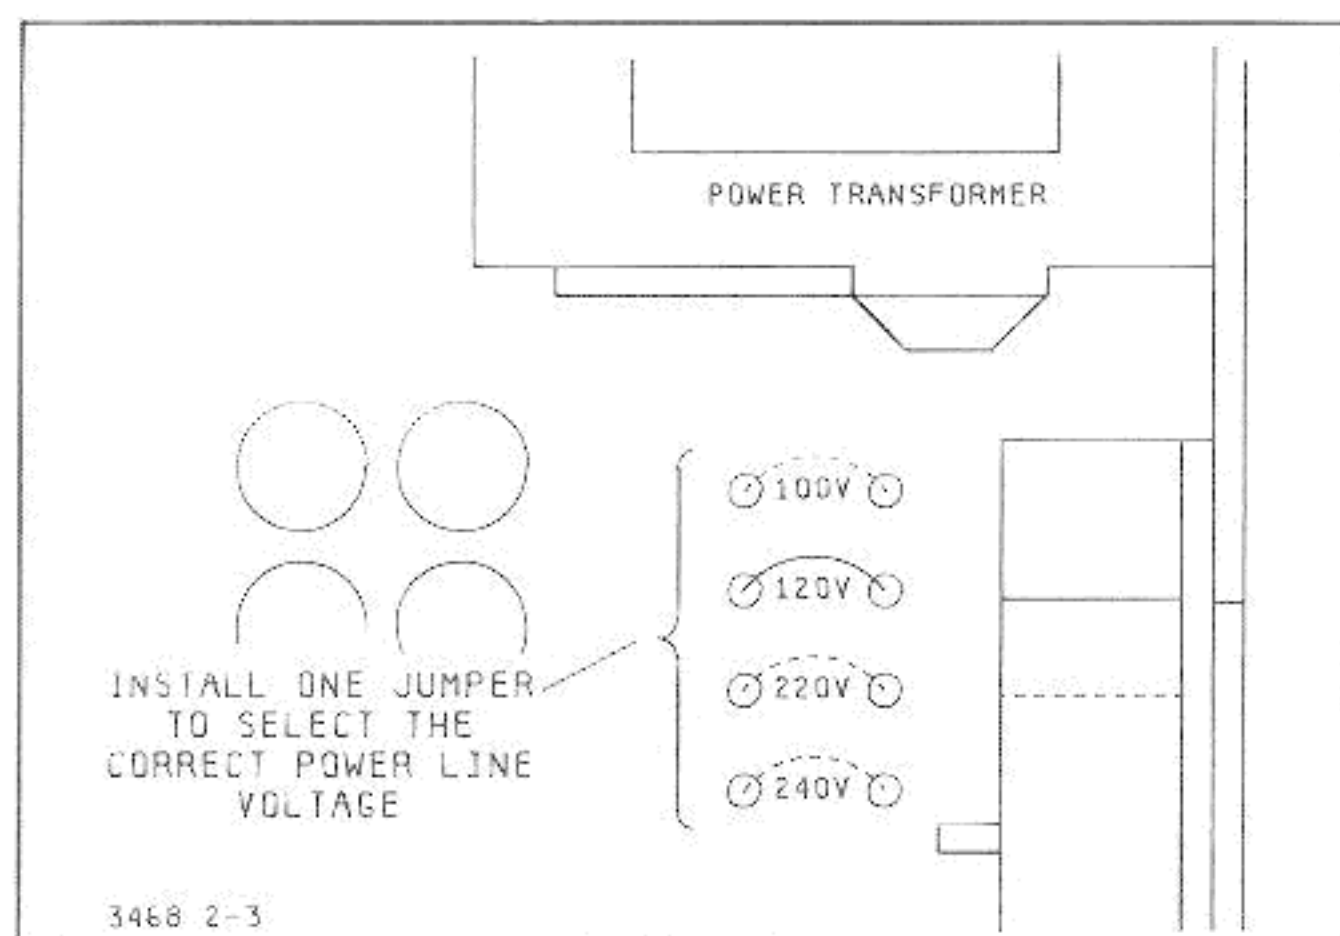

Figure 2-4. Power Line Voltage Configuration
6. Locate the power line select jumpers. They are located on the 3468A's main printed circuit board at the right side of the power transformer (see Figure 2-4). If the jumper is in the correct position, go to step c to reassemble the 3468A. If the jumper needs to be changed, continue with step b.
4. Refer to Figure 2-4 and locate the power line jumper (J701).
6. Refer to Figure 2-4 and install jumper J701 into the holes for the desired power line voltage (the solder in the holes may have to be removed, before the jumper can be inserted into the holes). Make sure there is a good solder joint between the jumper and printed circuit board trace. The line voltages and corresponding jumper are as follows: